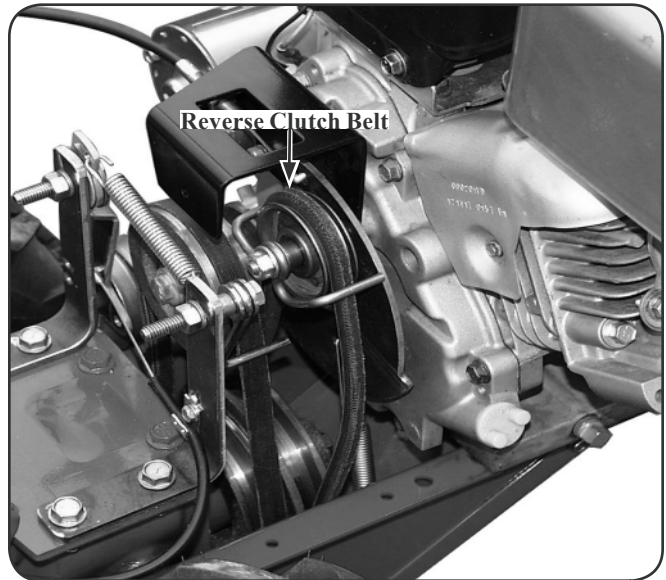

**Figure 6-6**
2. Use two 1/2", open-end wrenches to loosen the two jam nuts a few turns. See Fig. 6-6